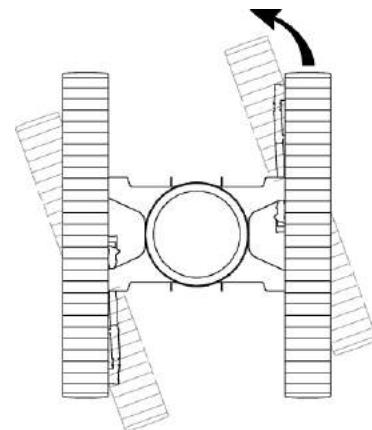

Figure 3-23. Travel Left (sharp turn)
9. To make a SHARP LEFT TURN (Figure 3-23), move the right crawler control handle forward from the neutral position and leave the left crawler control handle in the neutral position. The crane will pivot about the left crawler.